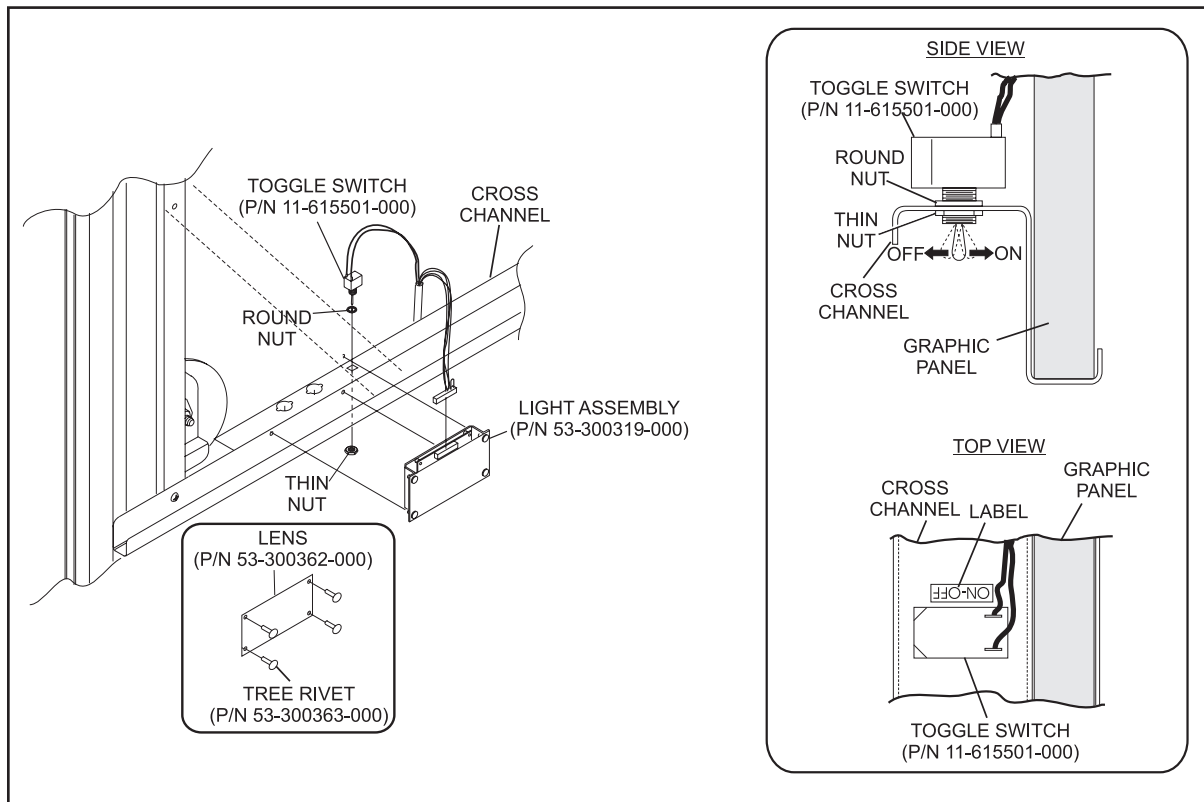

Figure 44
1. Insert the tree rivets on the 1st/2nd ball light assembly into the holes on the masking unit frame. Refer to *Figure 44*.
2. Thread round nut halfway on toggle switch then insert into hole in cross channel, secure with thin nut. Refer to *Figure 44*.
3. Check switch for position and install “On-Off” decal. Route cable to pinsetter. Refer to *Figure 44*.